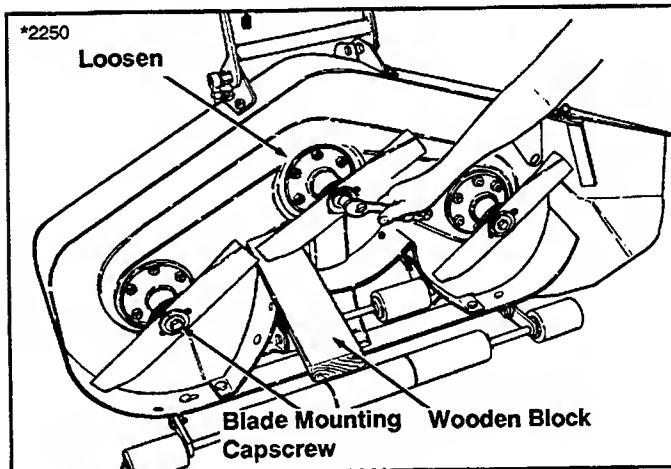

Figure 17. Removing The Blade
3. To remove blade for sharpening, use wooden block to hold blade while removing the blade mounting capscrew (figure 17).